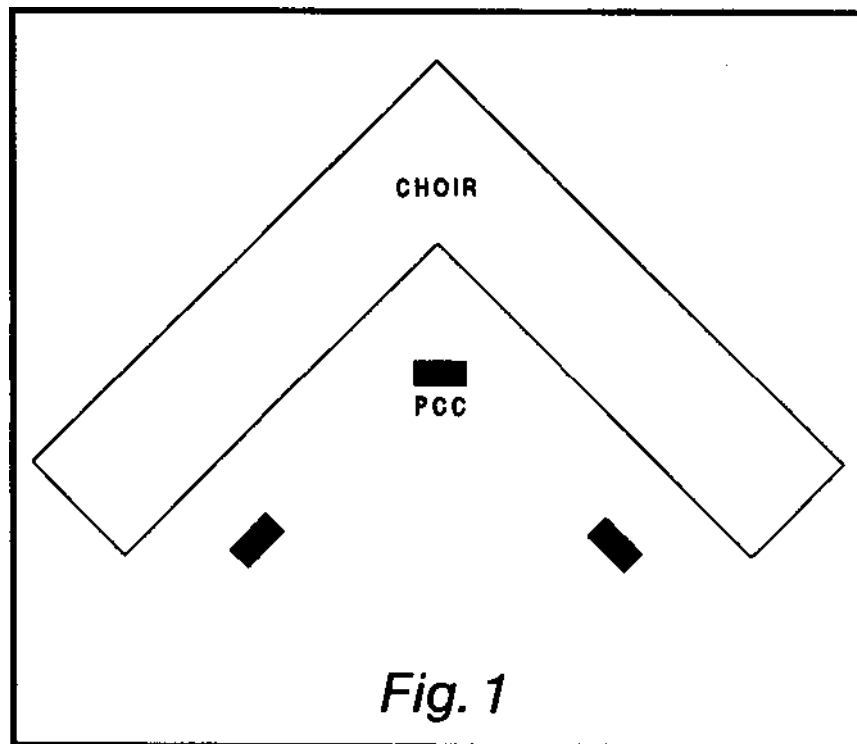

Fig. 1. Miking a children's choir with PCC-160s.
*The children's choir was miked with three PCC-160s on the floor, 3 feet from the ensemble (Fig. 1). According to John Royer, the children sounded close-miked, and leakage was no problem.